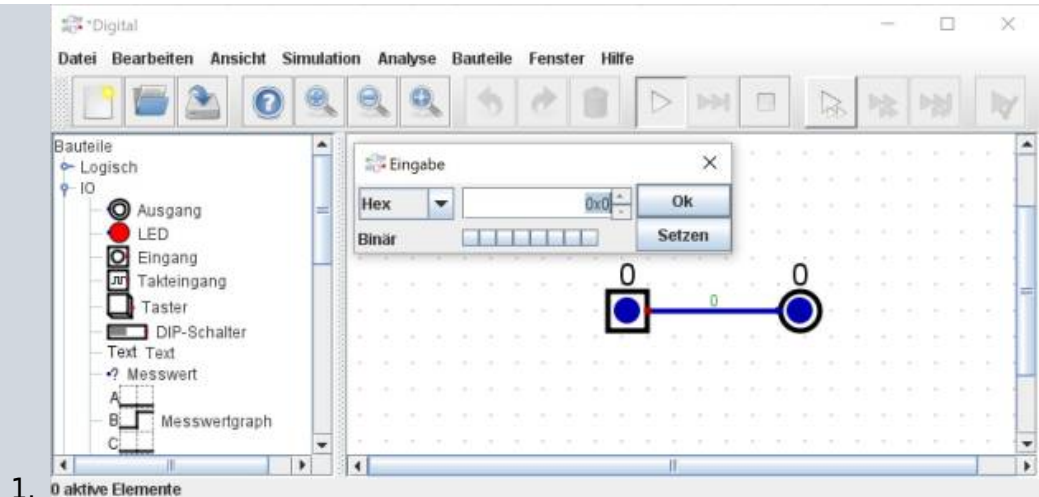

Fig. 3: Circuit with 8 bit bus
5. If the circuit is started now, a 0 appears over input, line and output (see figure 3).
6. A (left)click on the input no longer changes the value directly, but opens an input window. In this window, numbers can be entered as decimal values (10), binary values (0b10), hexadecimal values (0x10) or octal values (010). Pressing Line break (<↵>) accepts the value and closes the input window. Clicking Shift + New Line (<⇧>+<↵>) accepts only the value. The cursor keys up/down allow the displayed value to be counted up/down.